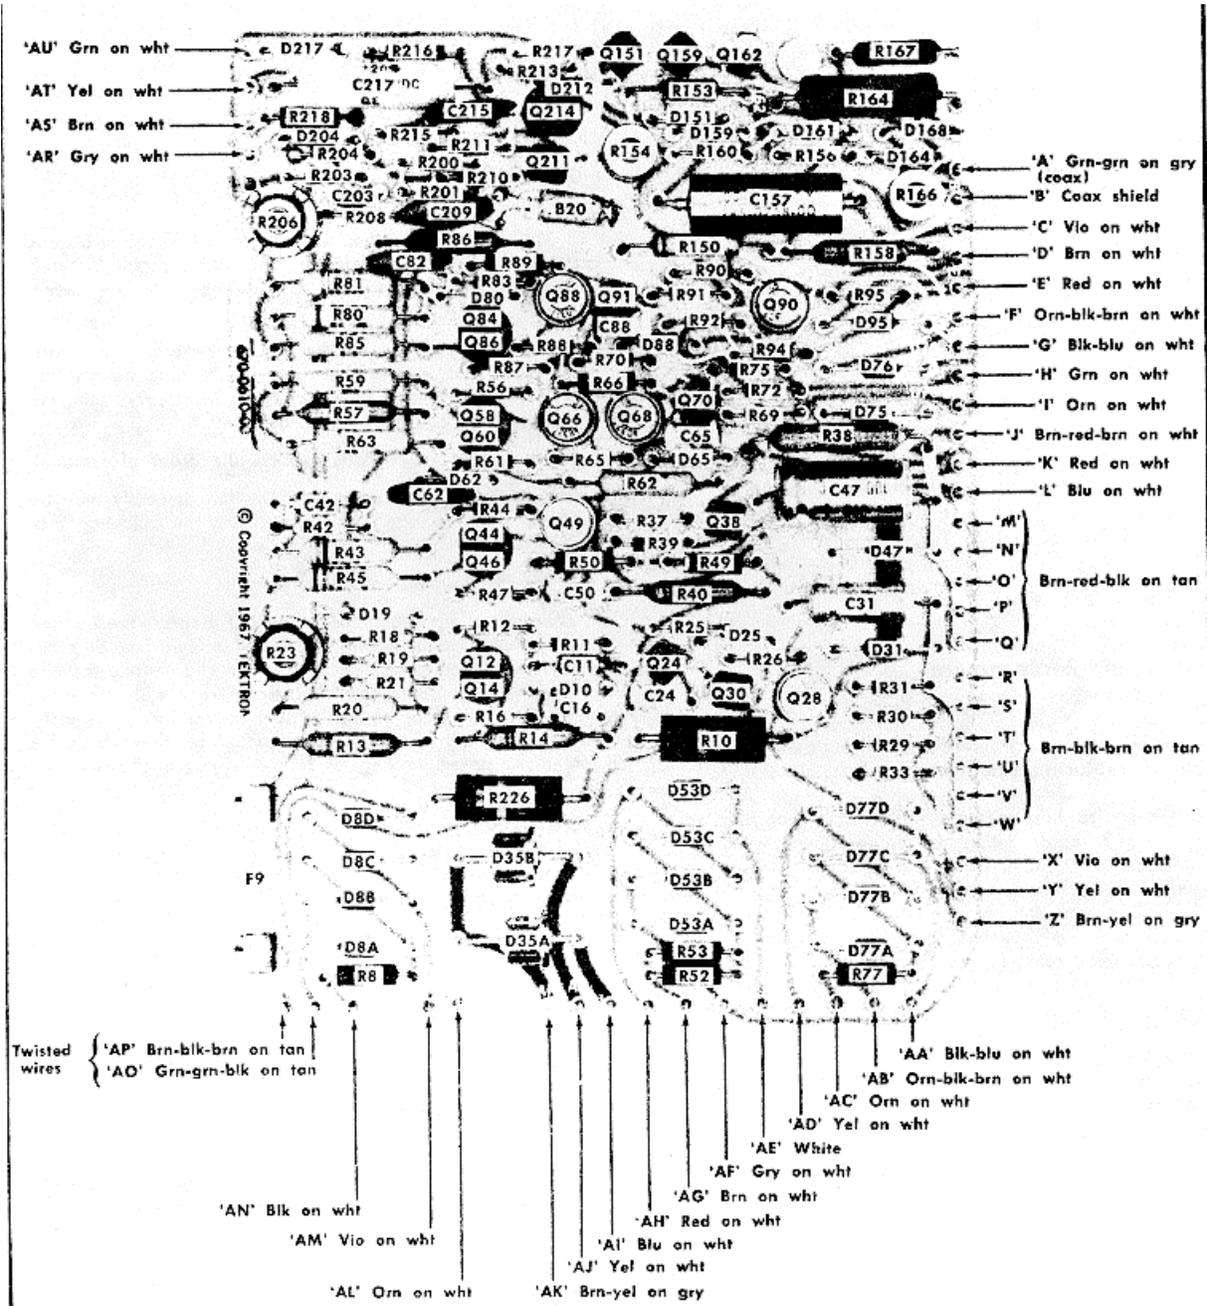

Fig. 4-5 Low Voltage Power Supply and 1 kHz Calibrator circuit board.
Circuit Boards. Fig. 4-5 through 4-7 show the circuit boards used in the Type R561B. Each electrical component on each board is identified by its circuit number. The circuit board is also outlined on its schematic diagram with a blue line. These pictures used with the diagrams will aid in locating the components mounted on the circuit boards.
6. Check Circuit Board Interconnections. After the trouble has been isolated to a particular circuit, check the pin connectors on the circuit board for correct connection. Figs. 4-5 through 4-7 show the correct connections for each board.
B. If the problem is possibly in the -100-, or +125-, or +300-volt supplies, visually check current sensing resistors R33, R75 and R94 for charring or cracking. For location of components, refer to Fig. 4-5.
Circuit Board Replacement. If a circuit board is damaged beyond repair, either the entire assembly including all soldered-on components, or the board only, can be replaced. Part numbers are given in the Mechanical Parts List for either the completely wired or the unwired board. Many of the components mounted on the circuit boards can be replaced without removing the boards from the instrument. Observe the soldering precautions given under Soldering Techniques in this section. However, if the bottom side of the board must be reached or if the board must be moved to gain access to other areas of the instrument, the mounting screws need to be removed and it may be necessary to disconnect some of the interconnecting wires from the pin connectors. Refer to Figs. 4-5 through 4-7 for component locations and interconnecting wire identifying colors.